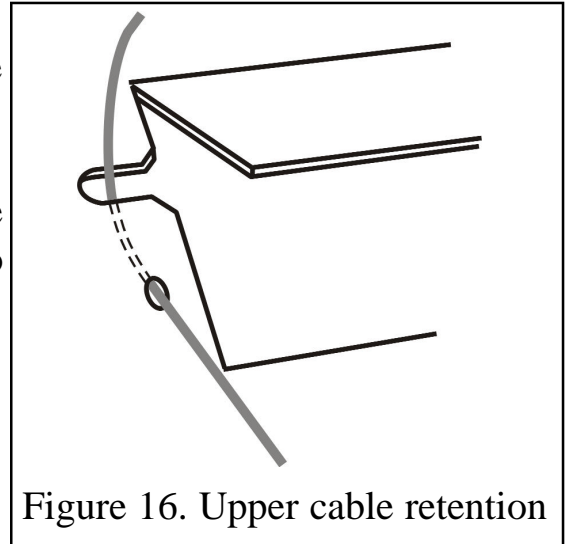

Figure 16. Upper cable retention
5. The rear of the hotbox has a slot and hole each side of the outlet opening. Assemble one end of the cable to the top of the fire by passing it through the small round hole and locking by positioning the cable in the adjacent slot (See figure 16). Give the cables a pull so that they grip.